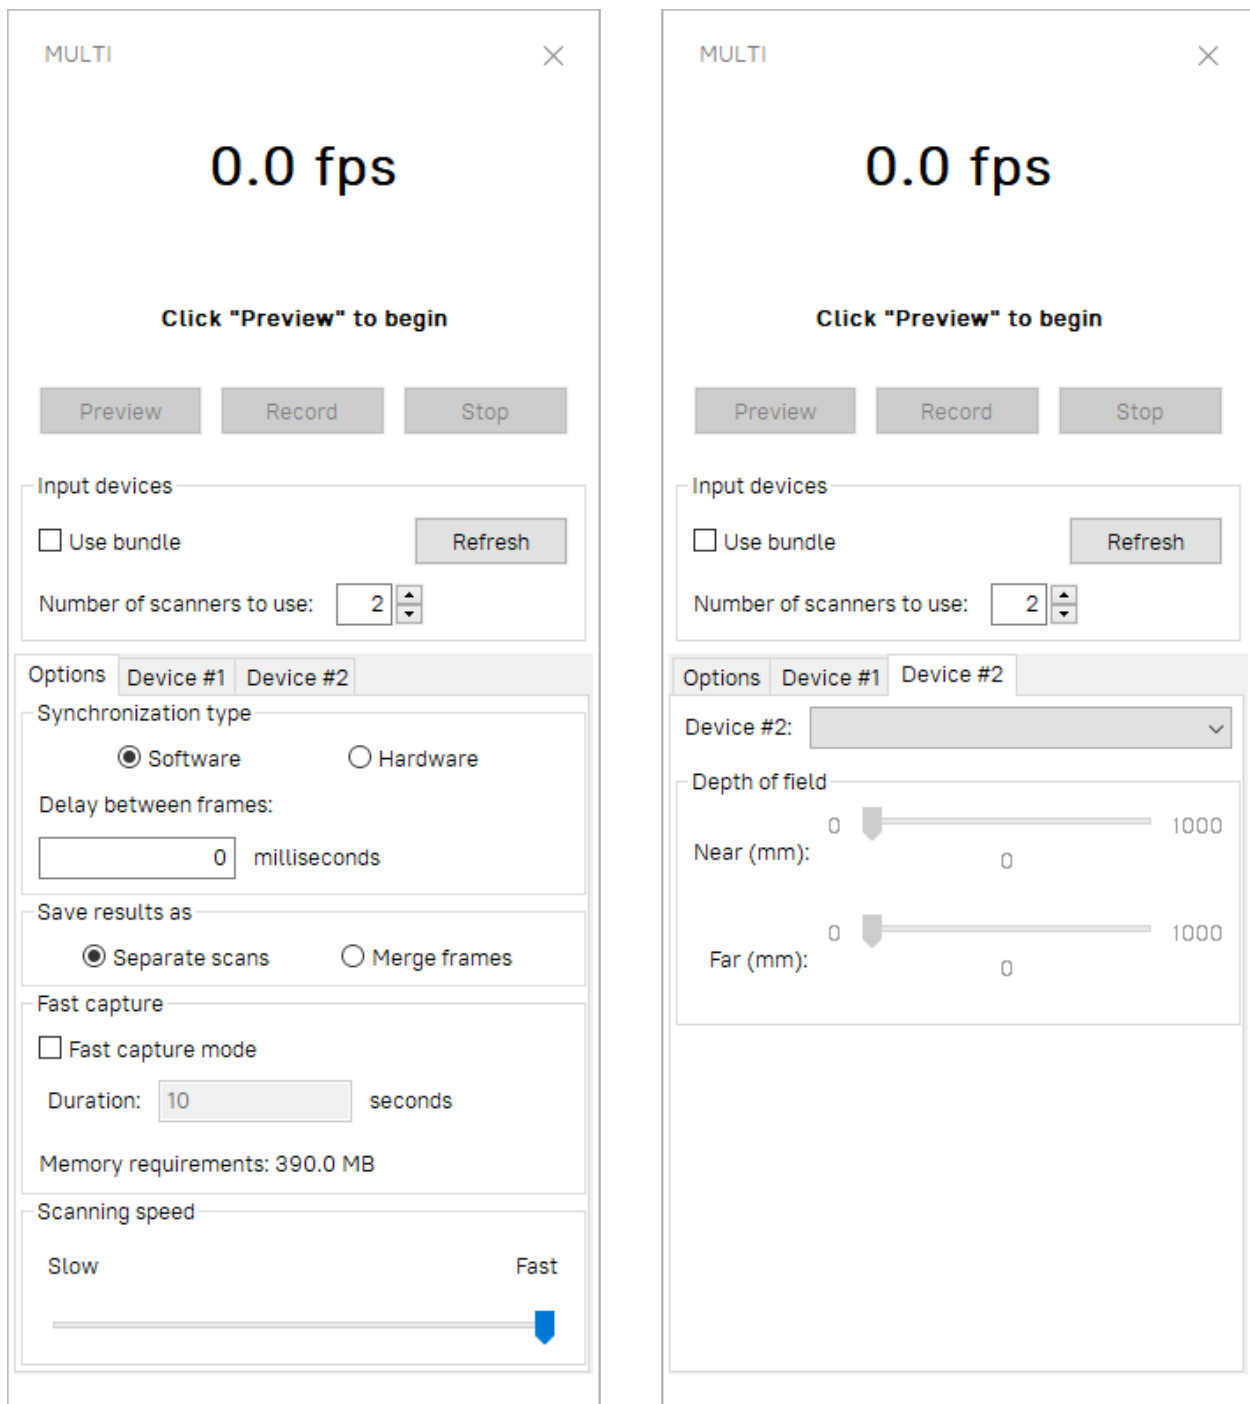

Figure 191: Multicapture panel: *Options* tab on left, *Device* tab on right.
- Select *File* → *Multicapture (bundle)*. The panel will open (see Figure 191).
Sometimes, limiting the cameras' field of view is necessary (e.g., to cut off extraneous distant objects). Two sliders in the *Depth of field* area set the near and far scanning boundaries. The application sets work-area boundaries for each device independently in the device tabs (see Figure 191, right). By default, the minimum and maximum boundary values for the corresponding device type are set to the recommended range; we encourage